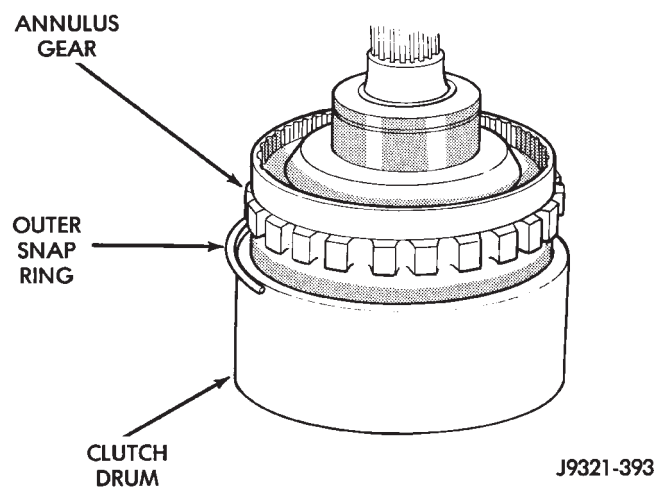

Fig. 278 Clutch Drum And Outer Retaining Ring Installation
(4) Align and install clutch drum on annulus gear (Fig. 278). Be sure drum is engaged in annulus gear lugs.
(5) Install clutch drum outer retaining ring (Fig. 278).